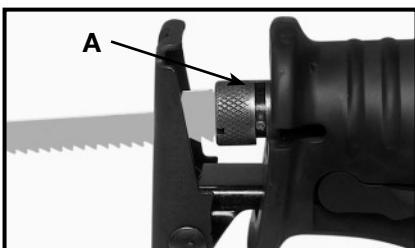

Fig. 4
1. The reciprocating shaft must be fully extended to permit access to the Quik-ChangeTM blade release collar (A) Fig. 4. If necessary, gently squeeze the trigger switch to move the reciprocating shaft to its outermost position (as shown in Fig. 4).
4. Insert the blade into the clamp until it bottoms. Allow the release collar to rotate clockwise to lock the blade in place, (A) Fig. 4.